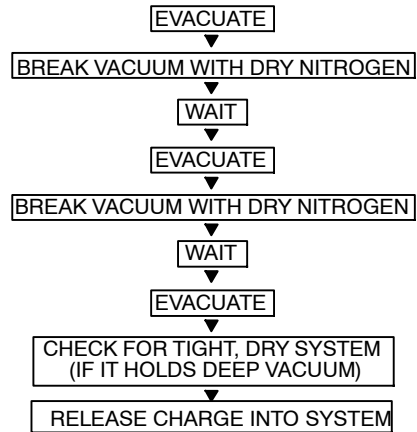

Fig. 19 – Triple Evacuation Method
The triple evacuation method should be used. Refer to Fig. 19 and proceed as follows:
- 5 Repeat this procedure as indicated in Fig. 19. System will then be free of any contaminants and water vapor.